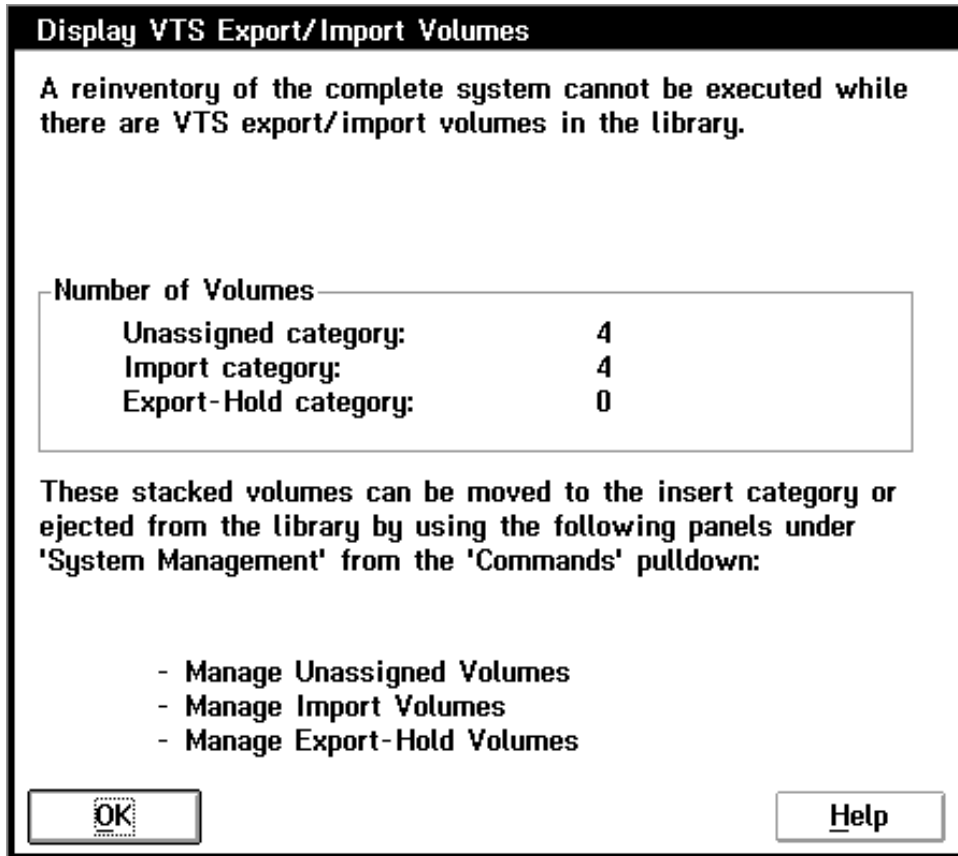

Figure 176. Display VTS Export/Import Volumes Window
2. If you select the **Re-inventory Complete System** option and there are VTS Import or Export Stacked Volumes in the Unassigned, Import, or Export-Hold categories, then the Display VTS Export/Import Volumes window (Figure 176 on page 256) opens. You cannot continue with the re-inventory until you eject the Export and Import volumes. The re-inventory is blocked to prevent the possible destruction of important exported data. You should exit this window, then select the appropriate windows under the Commands window under **System Management** in the LM Operator window and eject the indicated volumes. When you have ejected all Export and Import volumes from the 3494, you can then select the **Re-inventory Complete System** option and continue.